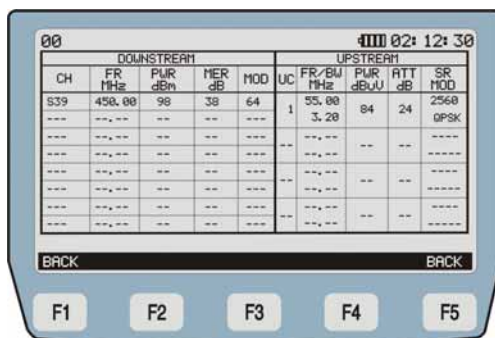

Figure 16.- Logger Viewing.
- VIEW [F3]:** It allows the user to access the data stored in the selected logger (Figure 16.-).